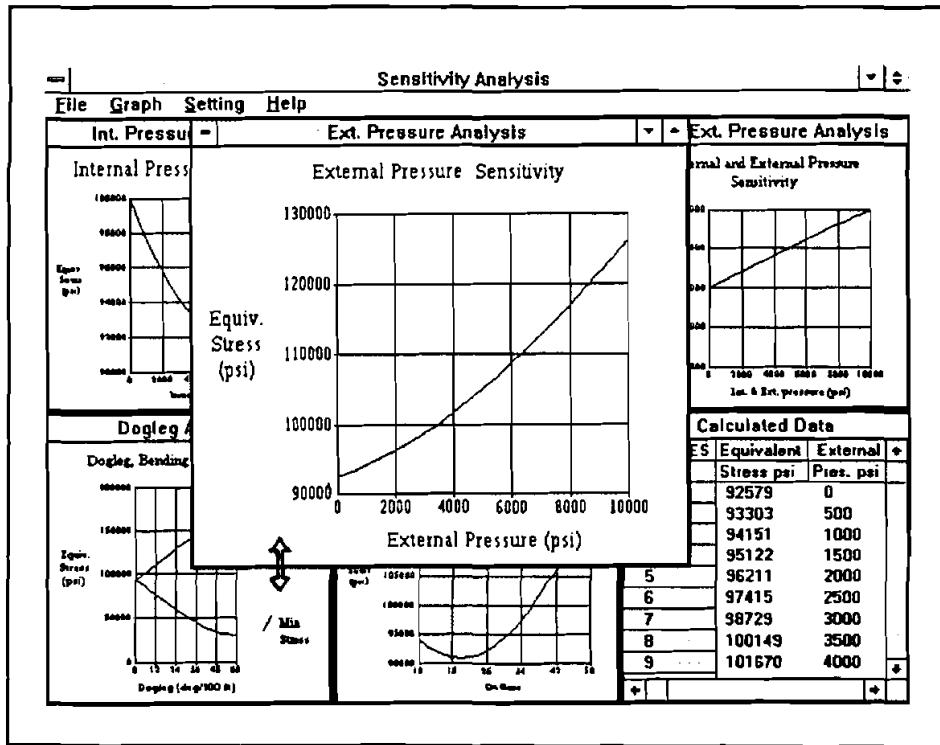

Figure 4-9. Using Mouse to Change Window Size
2. When the mouse cursor is moved to the boundary of the sub-windows, the cursor becomes a double arrow (Figure 4-9).